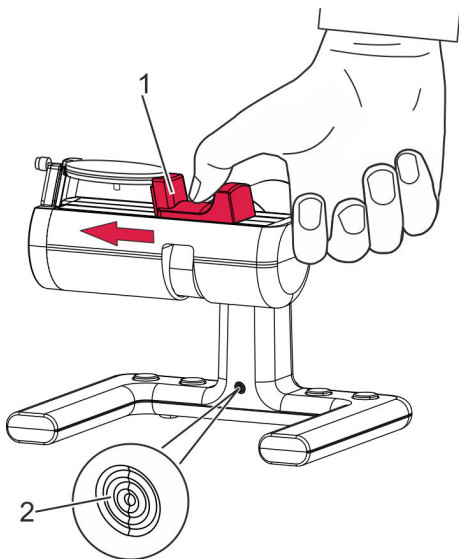

Fig. 17: Releasing the clamping jaw
3. ➤ Carefully guide the clamping jaw (Fig. 17/1) to the watch movement.
- The LED on the device (Fig. 17/2) flashes at the same frequency as the watch beats.